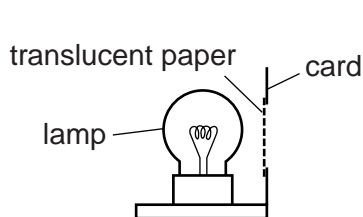

Fig. 4.1
- (ii) Illuminated object with a triangular hole of height 1.5 cm (see Figs. 4.1 and 4.2). The hole is to be covered with thin translucent paper (e.g. tracing paper).